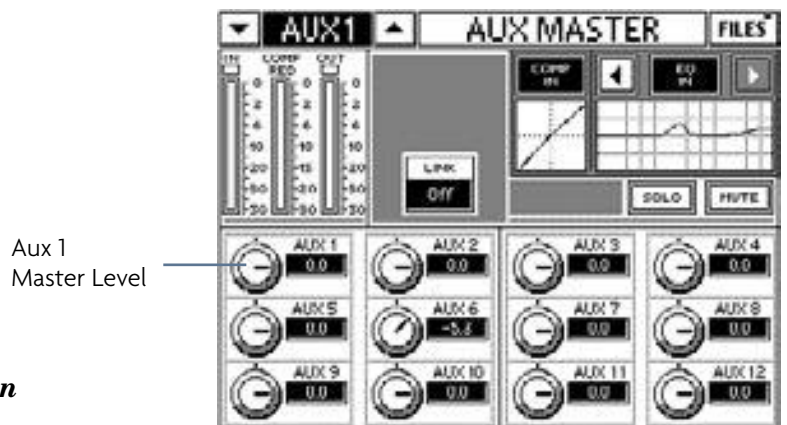

Figure 2-5 AUX MASTER Touchscreen
16. Adjust Aux 1's master level with its corresponding QuickMix knob (see the Aux Master screen in Figure 2-5).